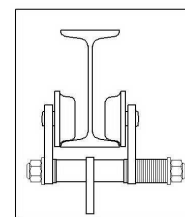

FIGURE 2
- ② Use adjusting collar to adjust the Trolley range to fit I-Beam.(FIGURE 2 & 3)